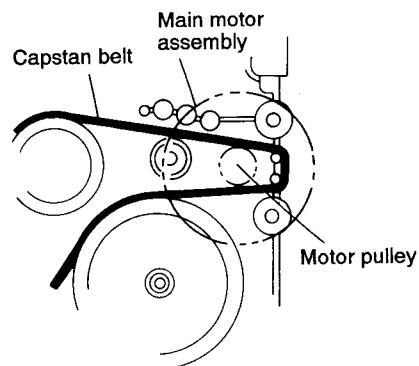

Fig. 5-22a
2. While raising the main motor, remove the capstan belt from the motor pulley (See Fig. 5-22a).